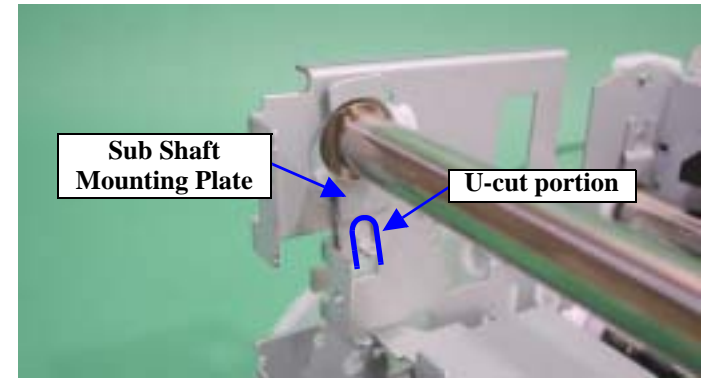

Figure 4-51. Normal Position of the Sub Shaft Mounting Plate
- Make sure that the U-cut portion on the bottom of the Sub Shaft Mounting Plate located on the inner left side of the Carriage Guide Shaft B as seen from the printer front is installed properly since it may come off the cutout of the Left Frame during removal of the Paper Eject Unit. Refer to Figure 4-51, "Normal Position of the Sub Shaft Mounting Plate".